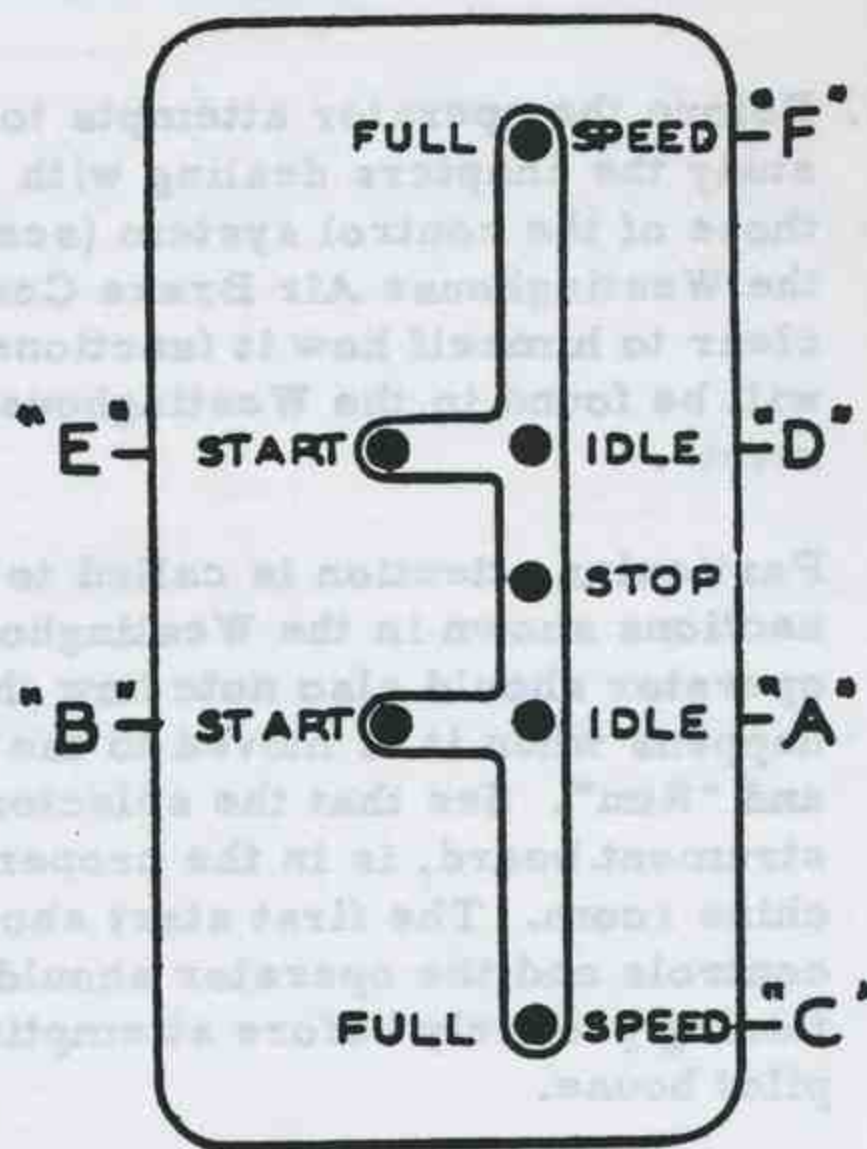

FIG. D-1
2. TO GO AHEAD FROM STOP (See Fig. D-1)
- (b) Move the lever to the "start" position ("B" on Fig. D-1). The engine will now start to turn over on air. A small amount of fuel will also be on at this point but this is merely done to have the fuel pump ready for fuel delivery when the air is turned off.
3. TO REVERSE THE ENGINE (Normal Reversing) (See Fig. D-1)
- (e) With indicating cocks open turn the engine over on air. Do not move the control lever beyond starting position "B" (see Fig. D-1). Observe the fuel pressure on the gauge board. A couple of starts may be necessary for the fuel pressure to register and it may also be